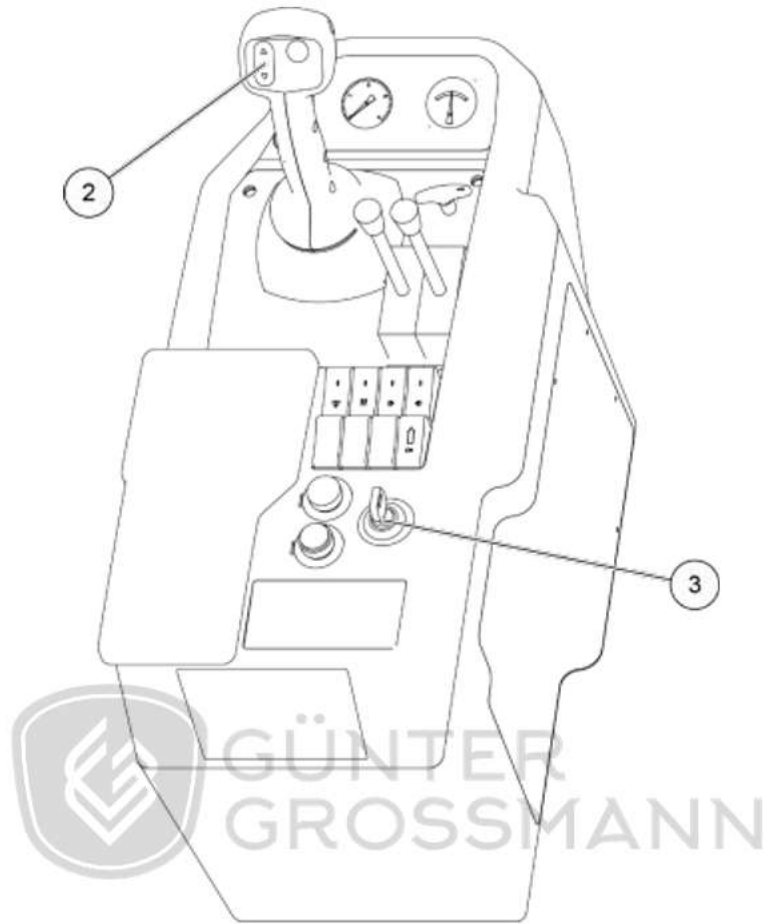

Figure 5-25 Operation platform
(1) Power switch
Step 3: Insert the key into the starting switch (3), the starting switch is in "OFF" state(4), as shown in Figure 5-25 and 5-26;
Step 4: Check and make sure that the travel control switch (2) is in the middle position, as shown in Figure 5-25;
Step 5: Turn the starting switch (3) to "PREHEAT" state(7) to preheat the engine. The preheat time shall not exceed 50 seconds. After preheating, release the starting switch, and the starting switch will automatically reset to "OFF" state;
Step 6: Turn the key to "ON" state (5) and hold. At this time, the whole loader circuit is connected;
Step 6: Continue to turn the key to "START" state (6), the starter drives the engine to run; After the engine starts, release the key, and the key will automatically return to "ON" state(5). Notice: Do not start the engine continuously for more than 10 seconds each time, and the interval between two starts should be at least 2 minutes.